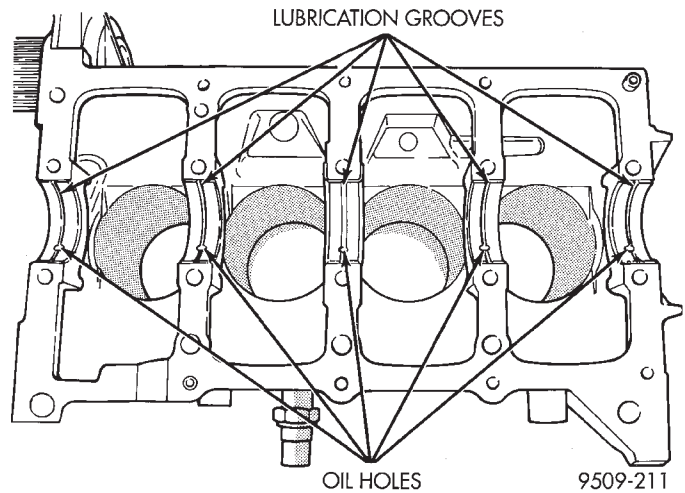

Fig. 74 Installing Main Bearing Upper Shell
- (1) Install the main bearing shells with the lubrication groove in the cylinder block (Fig. 74).
- (2) Make certain oil holes in block line up with oil hole in bearings and bearing tabs seat in the block tab slots.